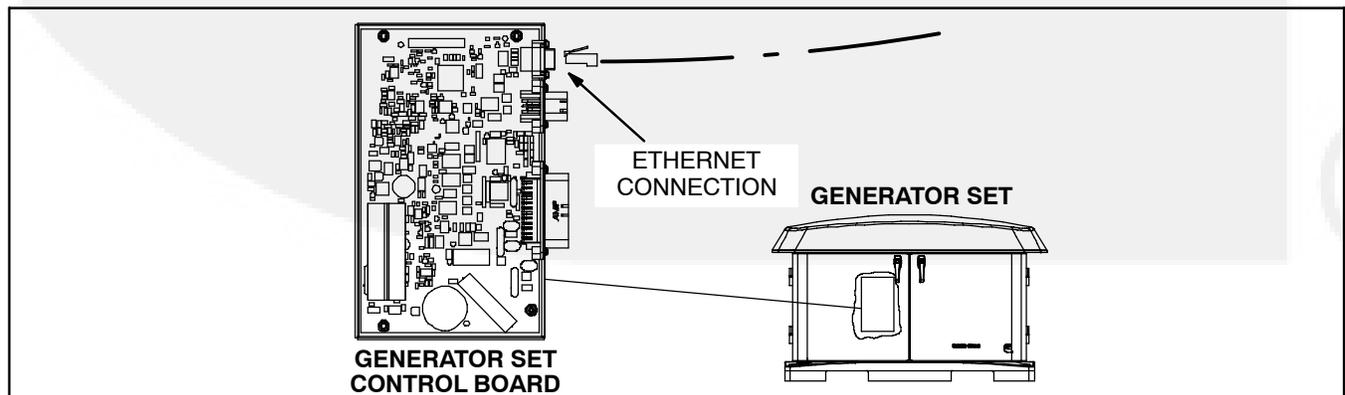

FIGURE D-1. NETWORK CONNECTIONS
- b. Check to see if the green and orange lights are illuminated at the Ethernet connection port on the generator set control board (see Figure D-1). If not, disconnect the Ethernet cable from the generator control board and connect it to the computer. Check to see if you can access a standard web page with the computer connected to the generator side of the Ethernet cable.